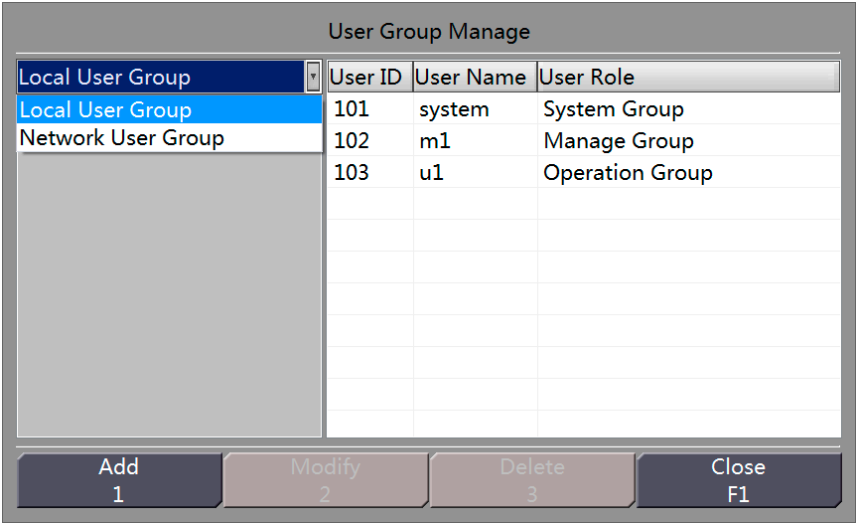
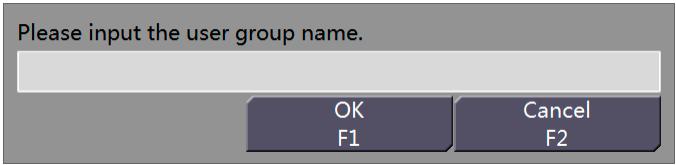

Figure 13-13 Interface for Managing User Group
Figure 13-14 Interface for Adding User Group
Choose Group Management from the User Management menu to display the Group Management interface, as shown in Figure 13-13.
Step 1 Click “Add” in the interface shown in Figure 13-13 to display a dialog box, as shown in Figure 13-14.
Step 1 Click “Edit” in the interface shown in Figure 13-13 to display a dialog box, as shown in Figure 13-15.
Select the group to delete from the User Group List in the interface shown in Figure 13-13 and click “Delete”. The users under this group are automatically assigned to ungrouped group.